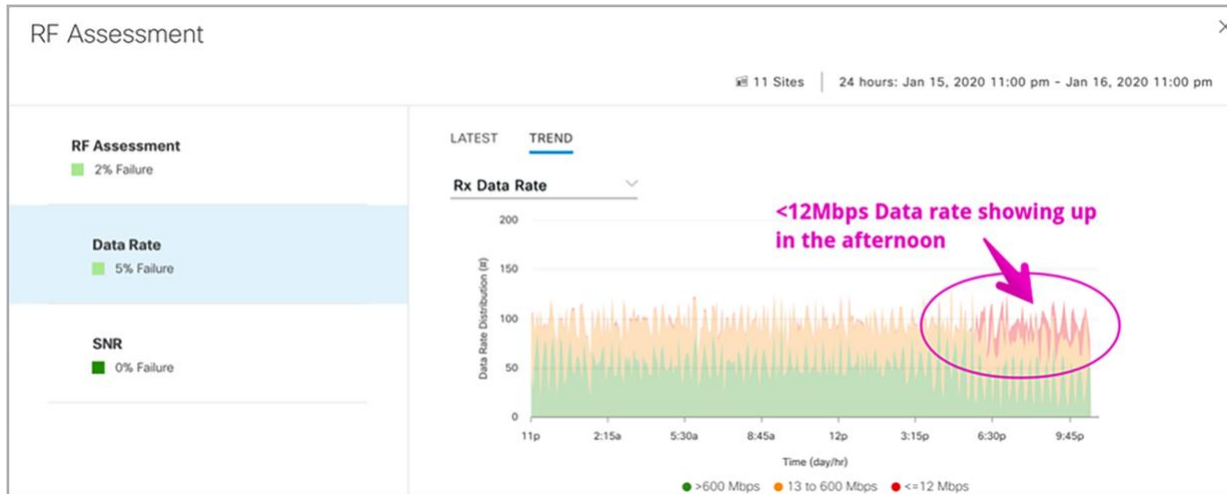

Figure 89.
- s. Click the Data Rate heatmap under the Network Services category to switch to a drilled-down view (**Figure 89.**)